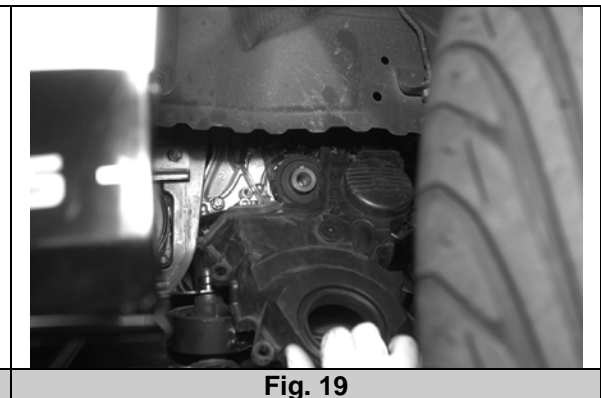

Fig. 19
- aa) Remove the lower plastic cover. (Fig. 19)